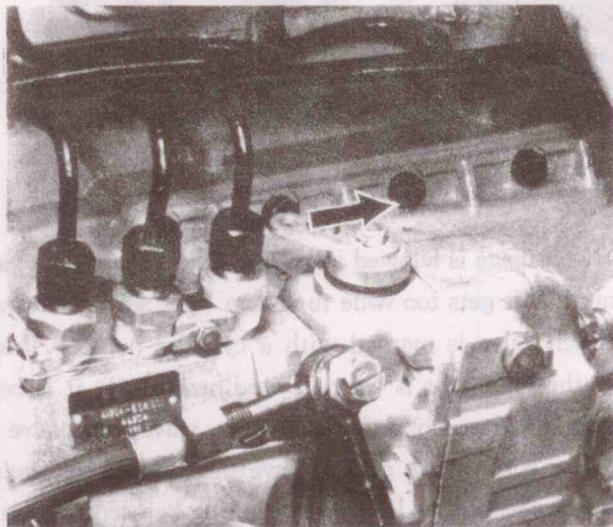

Fig. 2
- A. Before stopping the engine, reduce load and speed gradually, run the engine at lower – middle and idle speeds for several minutes. When the temperature of cooling water is below 70°C, cut off the fuel delivery by pulling the engine stop lever to stop the engine(see Fig 2).
(1) Slacken the connecting nuts connecting the high pressure fuel pipes.
(2) Block up the intake pipe.